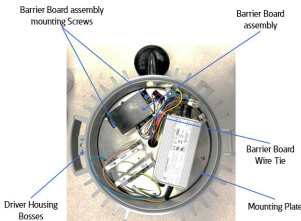

FIGURE 6
8. Secure the barrier board wires connected to controller board with cable tie (See Figure 6) to avoid interference between cover and housing.
9. Reinstall and secure the luminaire to the top hat prior to re-energizing the luminaire. Tighten back the captive screw to top hat by applying torque of 30 in.-lbs. (3.4 N-m). See Figure 1. Ensure two (2) bosses on driver housing are in contact with Top hat (See Figure 6 & 7).
3. Release the barrier board wires by carefully cutting barrier board cable tie, taking care not to damage wire insulation. (See Figure 6)